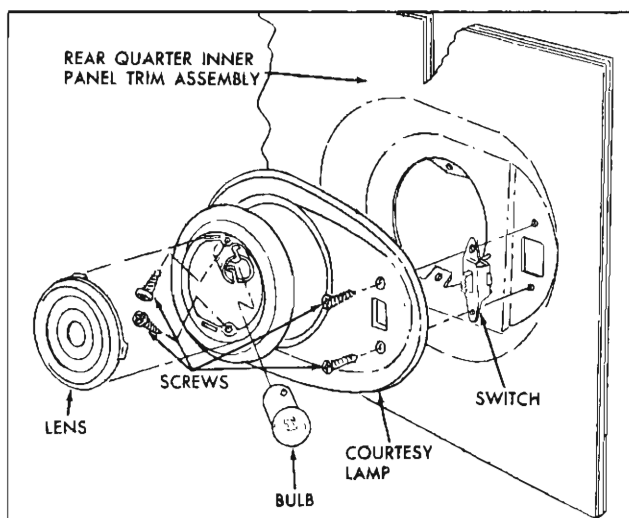

Fig. 76—Rear Quarter Courtesy Light and Switch
1. On "45" styles, remove screws securing courtesy lamp and switch assembly to trim panel and carefully remove assembly sufficiently to disengage wires at rear of lamp and switch. Remove rear finishing panel (fig. 76).